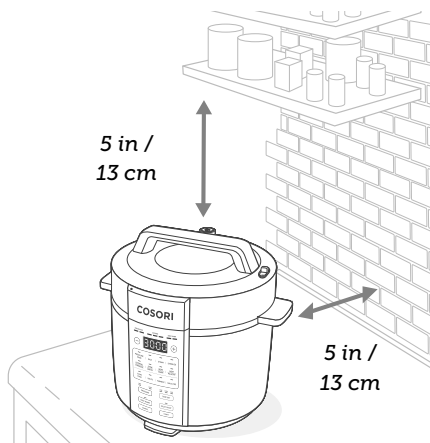

Figure 2.1
**Note:** Leave 5 inches / 13 cm of space above the pressure cooker. [Figure 2.1]